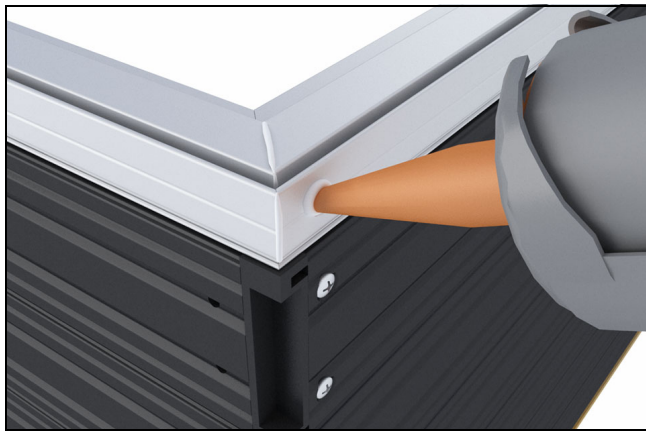

Figure 42
9. Inject both frame cladding corner key holes with sealant until squeeze out occurs. Fasten using a #8 x 1 1/2" flat head screw into each corner key. See figure 42.